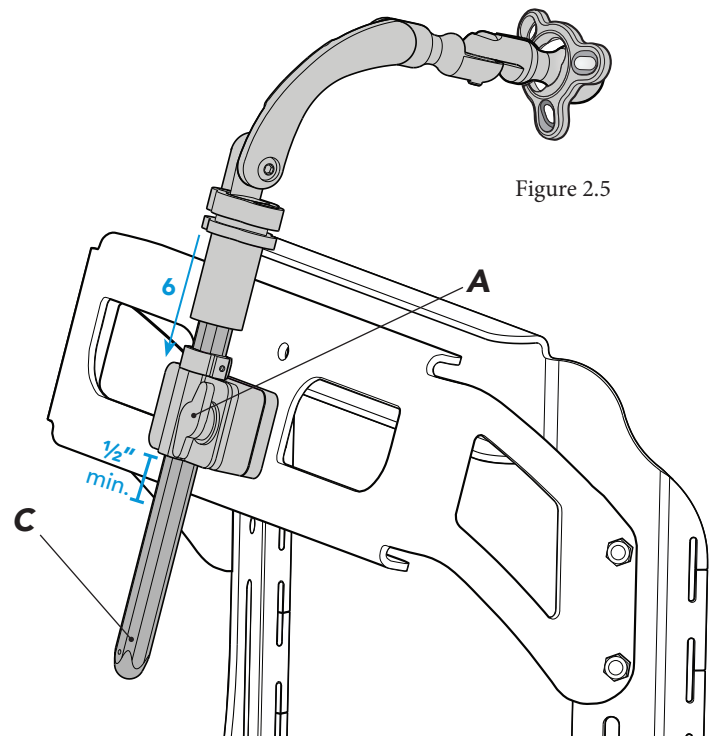

Figure 2.5
- 8 Insert hardware shaft **C** into mounting bracket **B** and turn knob **A** clockwise to secure. Note: Make sure at least $\frac{1}{2}$ " of shaft **C** is completely through the bottom of **B** at all times (see page 7, figure 2.5). See pages 15-17 for final adjustments.
- 6 Insert hardware shaft **C** into mounting bracket **B** and turn knob **A** clockwise to secure. Note: Make sure at least $\frac{1}{2}$ " of shaft **C** is completely through the bottom of **B** at all times (see figure 2.5). See pages 15-17 for final adjustments.
- 6 Insert hardware shaft **C** into mounting bracket **B** and turn knob **A** clockwise to secure. Note: Make sure at least $\frac{1}{2}$ " of shaft **C** is completely through the bottom of **B** at all times (see page 7, figure 2.5). See pages 15-17 for final adjustments.
Note: Make sure at least $\frac{1}{2}$ " of shaft **C** is completely through the bottom of **B** at all times (see page 7, figure 2.5). See pages 15-17 for final adjustments.
- 7 Insert hardware shaft **C** into mounting bracket **B** and turn knob **A** clockwise to secure. Note: Make sure at least $\frac{1}{2}$ " of shaft **C** is completely through the bottom of **B** at all times (see page 7, figure 2.5). See pages 15-17 for final adjustments.
Note: Make sure at least $\frac{1}{2}$ " of shaft **C** is completely through the bottom of **B** at all times (refer to page 7, figure 2.5). See pages 15-17 for final adjustments.
Note: Make sure at least ½" of shaft **C** is completely through the bottom of **B** at all times (refer to page 7, figure 2.5).